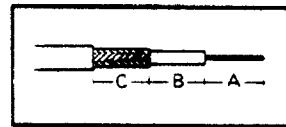
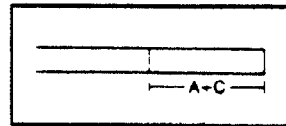

Figure 13
Figure 14
- A. If your required strip length is as shown in Figure 13, you will choose the 2-step cassette that matches your "C"-dimension. Mark cable at length A+C from end (Fig. 14).